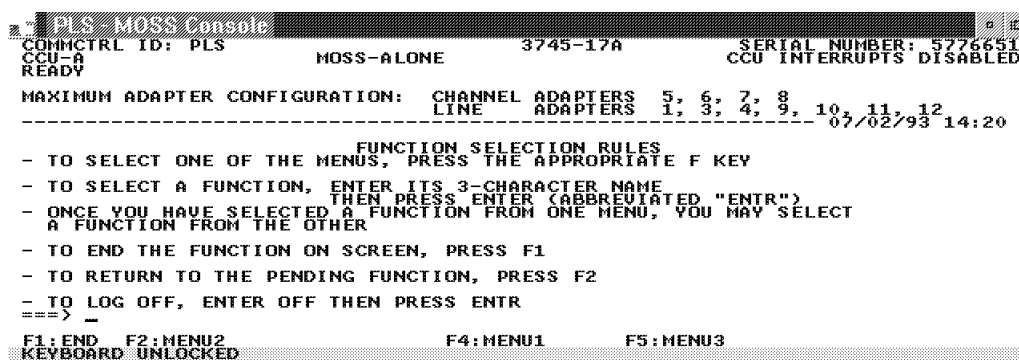

Figure 3-6. MOSS Primary Menu
b. ___ The "Function Selection Rules" panel is displayed. You are now able to select the MOSS functions as usual (see Figure 3-6).